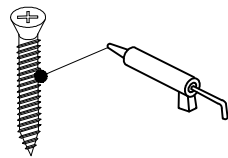

FIG.2A
3. Align the bottom rail and corner joint to the desired position on the shower base. Make sure the A and B distances are correct (see page 3 for A and B distances). Prior to drilling, dry fit everything making sure that everything is straight, level and plum. Pre-drill for sinkers and tap sinkers. Cut excess sinker off with hacksaw or sharp blade. Dip screws in silicone. [SEE FIG.2A] Screw corner joints and rails down. Silicone tops of screws.